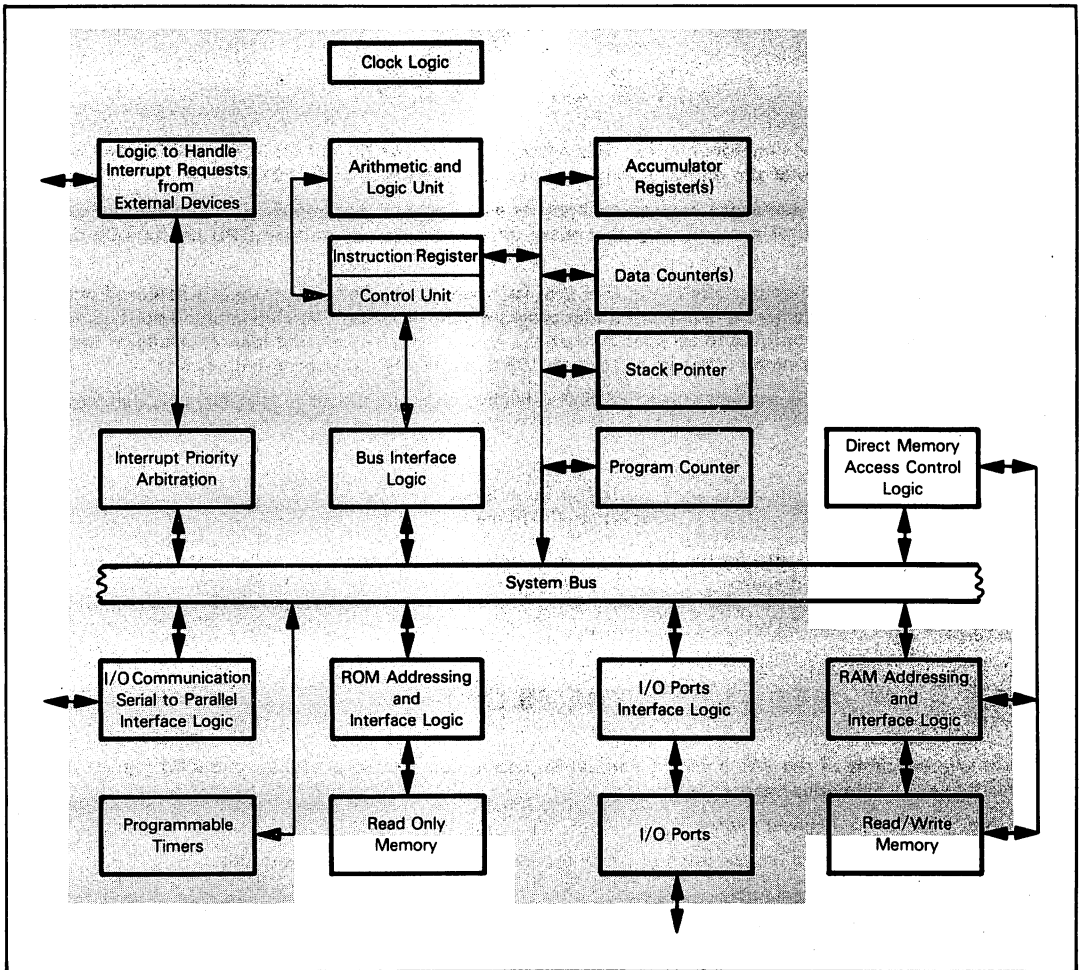
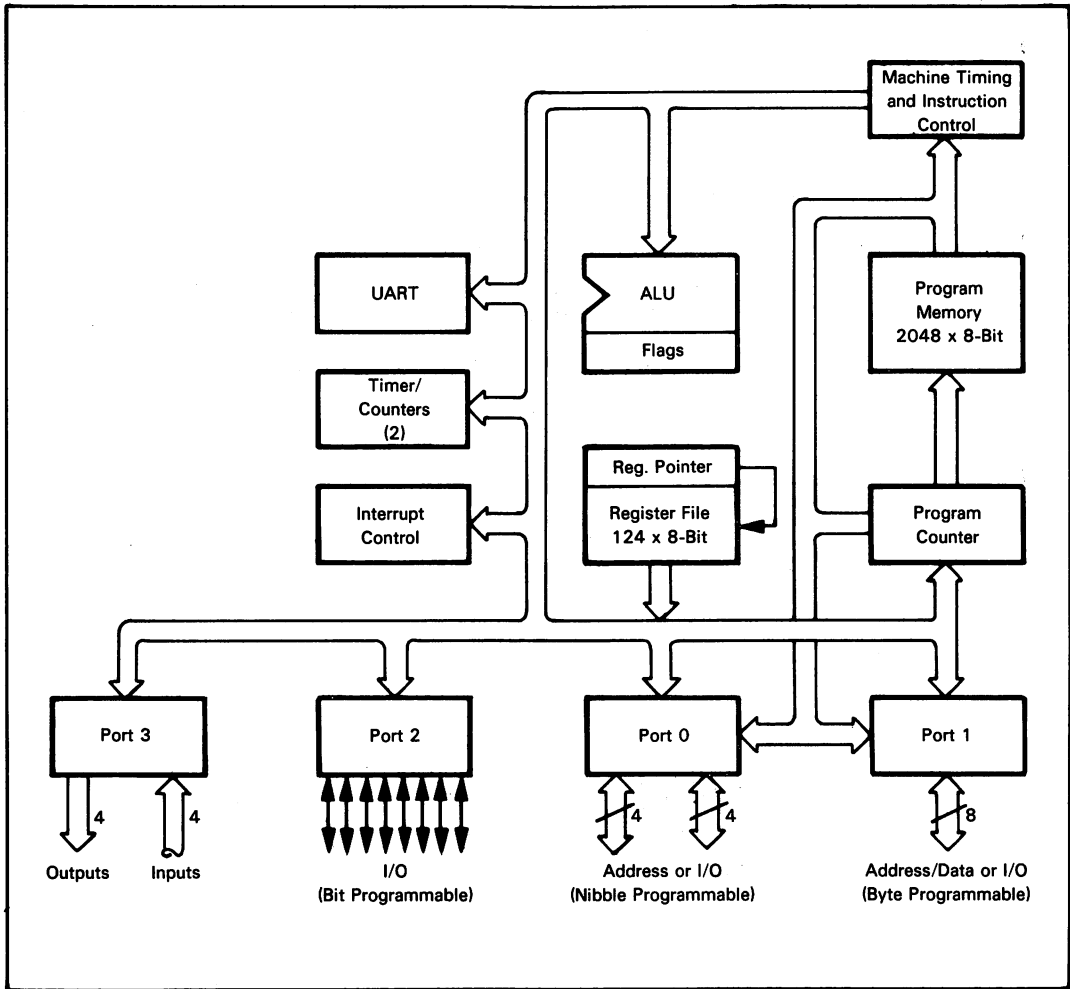

Figure 8-1. Functional Logic Included in the Z8 Microcomputer
Figure 8-2. Z8 Microcomputer Block Diagram
**Figure 8-1 represents that part of our general microcomputer system logic which is provided by the Z8, whereas Figure 8-2 represents the logic of the Z8 in block diagram form.**